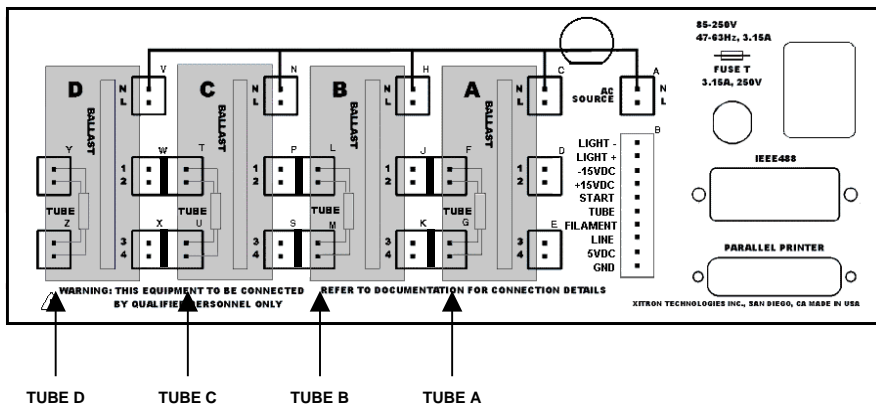

Figure 7. Four-pin Load Connections
Use the connection method shown in *Figure 7* and described below when testing four-pin ballasts, or multiple ballast types when some are of the four-pin variety.
1. Wire each load to the tube connectors in each section of the rear panel, as shown next to these connectors in *Figure 7*.